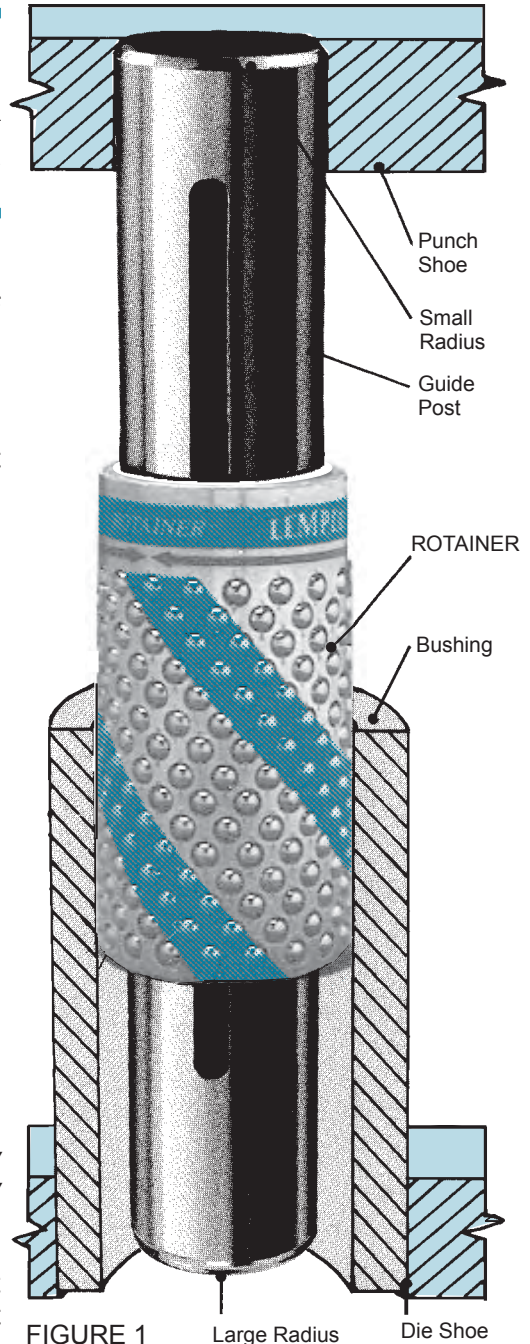

FIGURE 1 Large Radius Die Shoe
FIGURE 1 represents a typical guide post and ROTAINER®. Please note that the end of the guide post with the *small* radius is press fit into the punch shoe, and that the ROTAINER® is assembled with the ROTAINER® Slide assembly toward the same end of the guide post. On the bushing, however, the end with the *large* outside diameter radius is press fit into the die shoe.
Assemble ROTAINER® to guide post (FIGURE 1) by screwing the set screw in until flush with special ROTAINER® slide. Vertical and rotational movement should now be
2. Minimum Shut Height – See Figure 1.
- A. Lay out die as in Figure 1 (Minimum Shut Height). This determines maximum guide post length and maximum bushing height.
- C. Maximum Open Height (Maximum Shut Height plus Stroke) as in Figure 3 shows minimum guide post engagement in bushing that is required. If this is at least $\frac{3}{4}$ " then conditions are ideal. However, if this dimension is less than $\frac{3}{4}$ " then Figure 4 should be considered. Actual work is done for only a fraction of the total stroke on most dies and if conditions shown in Figure 4 are satisfied in conjunction with Figure 1 and Figure 2 then full length of stroke and maximum open height can be disregarded.